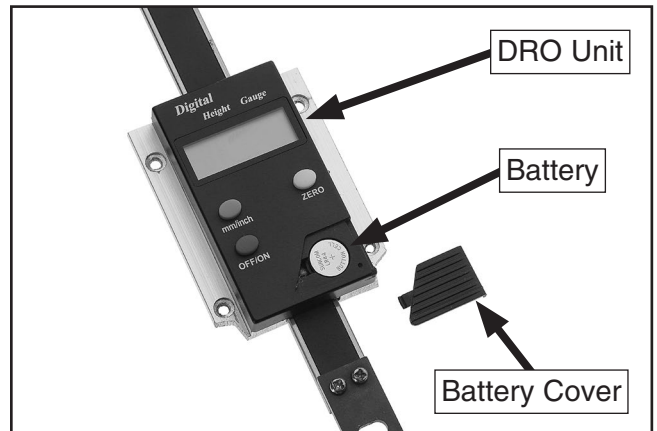

Figure 6. DRO battery cover removed.
4. Lay DRO unit on a flat surface and remove battery cover, as shown in **Figure 6**.